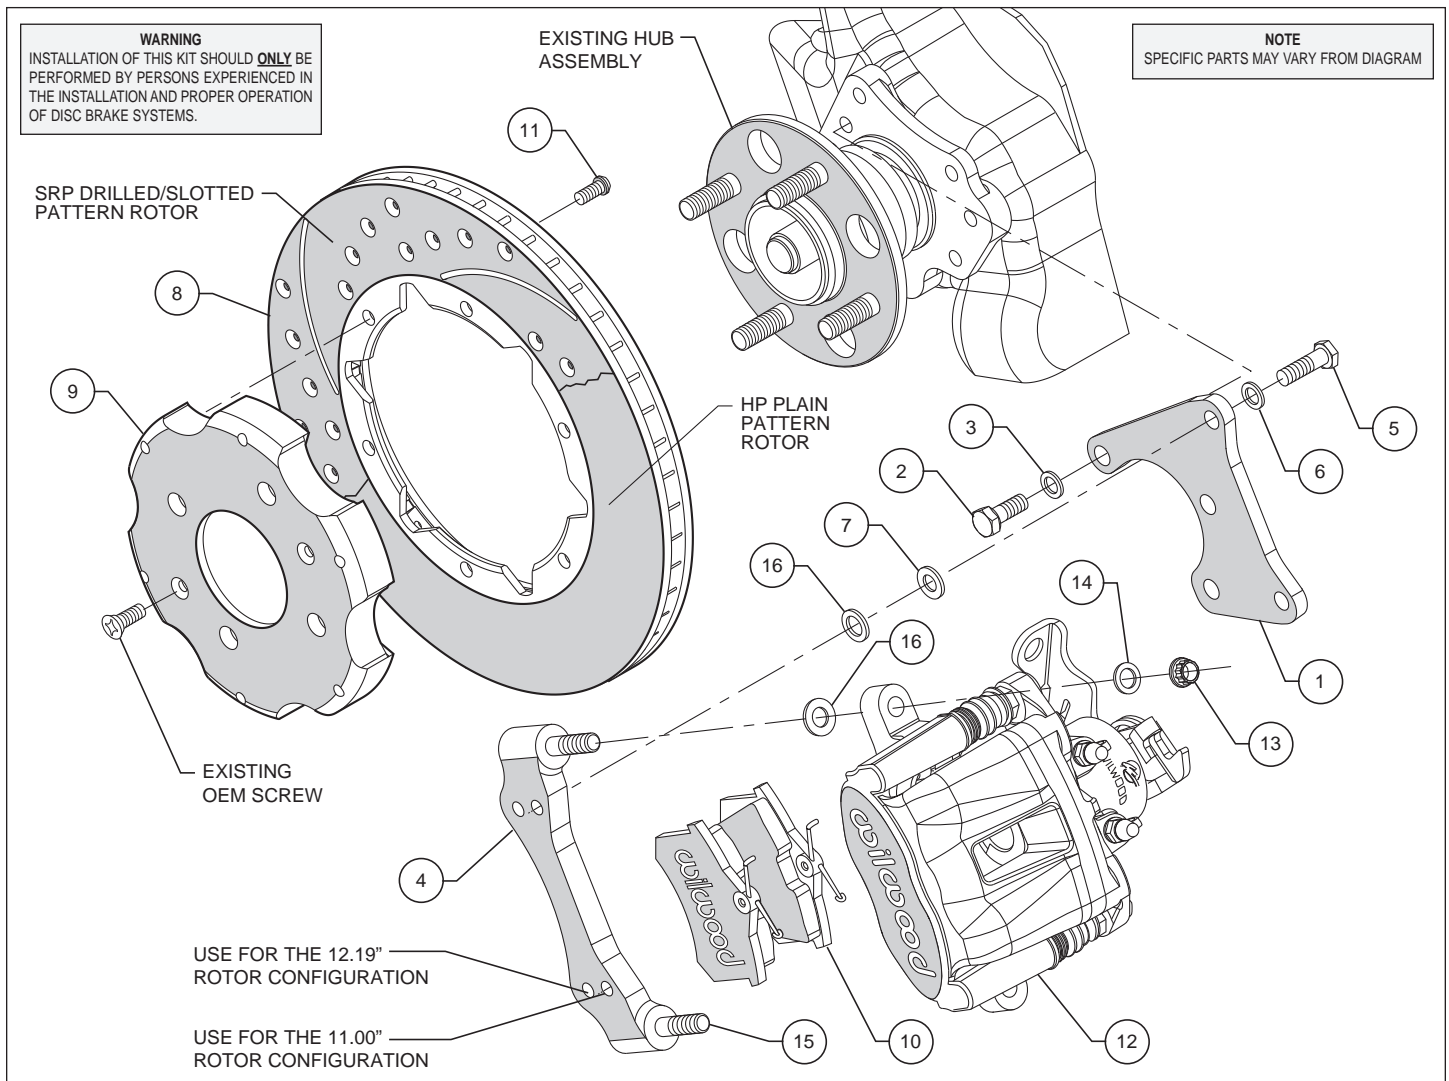

Figure 1. Typical Installation Configuration
- The axle bracket (1) and the radial mount caliper bracket (4) should be installed first with clean, dry threads on the mounting bolts. Install the axle bracket (1) on the outboard side of the hub assembly by sliding bolt (2) through washer (3) through the axle bracket mounting holes and thread into the hub assembly. Next install the radial mount bracket (4) on the outboard side of the axle bracket (1) by sliding bolt (5) through washer (6), through the axle bracket mounting holes and thread into upper holes in caliper bracket (4) (see figure 1). Place two shim washers (16) between the axle bracket (1) and the caliper mounting bracket (4). The axle bracket (1) must tighten squarely against the hub assembly and the caliper mounting bracket (4) must tighten squarely against the outboard side of the axle bracket (1). Inspect for interference from casting irregularities, machining ridges, burrs, etc. Use two shims (16) between the axle mounting bracket (1) and the caliper mounting bracket (4).
- With the larger I.D. side of the rotor (8) facing away from the hat (9), attach rotor (8) to hat (9) using bolts (11) as shown in Figure 1. Using an alternating sequence, remove bolts one at a time, apply red *Loctite*[®] 271 to the threads, and torque to 25 ft-lbs.
- Slide the brake pads (10) up into the caliper (12) from the bottom until the "v" spring clip snaps into place against the anvil. They should install easily without interference.
- Lubricate caliper mounting studs and nuts with lightweight oil. Install two shims (16) over each stud (15) on the radial mount bracket (4). Slide the caliper (12) in place over the studs and rotor and install the washer (14) and lock nut (13) to hold the caliper in place. The caliper bleed screw should be pointing toward the rear of the vehicle. Snug the lock nuts (13) and check that the caliper (12) is centered over the rotor (8). Add or subtract .016" shims (7) and/or .035" shims (16) as necessary between the caliper mounting bracket (4) and the axle bracket (1) to center the caliper (12) on the rotor (8).
- Check that the outside radius of the brake pad (10) is aligned with the outside diameter radius of the rotor face. Add or subtract shims (16) between the caliper (12) and caliper mounting bracket (4) to gain the proper alignment.
- Once all clearances have been checked, remove the wheel, caliper and rotor from the axle flange. Secure the caliper mounting bracket (4) to the axle bracket (1) while applying red *Loctite*[®] 271 on the bolt threads (5). Torque the bolts (5) to 35 ft-lbs. Then secure the axle bracket assembly (1 and 4) to the hub using red *Loctite*[®] 271 on the bolt threads (2). Torque the bolts (2) to 40 ft-lbs. Reinstall the rotor and again use several lug nuts to hold it in place being sure to align the small countersunk holes in the hat (9) with the corresponding holes in the hub. Reinstall the caliper, torque the caliper nuts (13) to 30 ft-lbs.